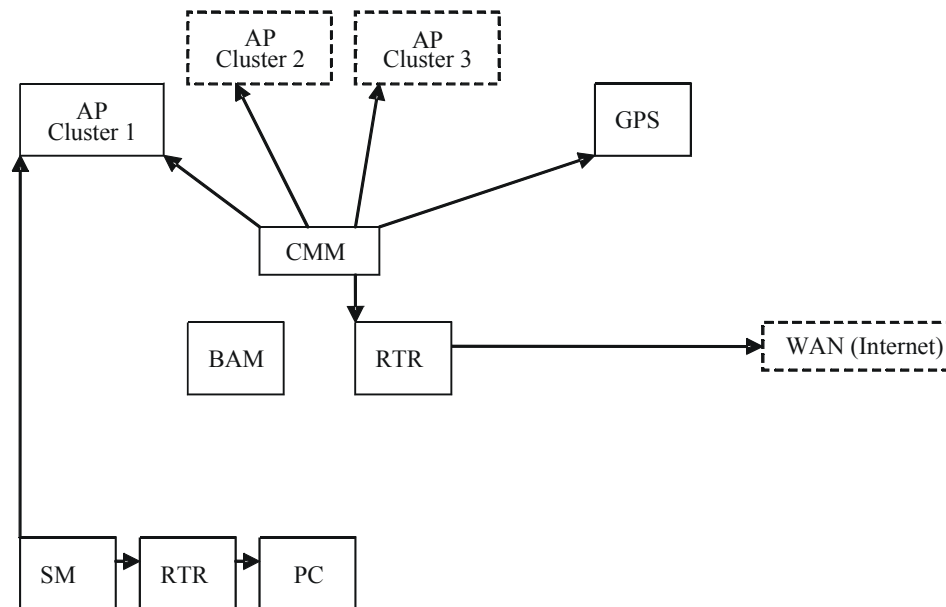

Figure 34: Typical network layout with no BH
- Figure 34: Typical network layout with no BH